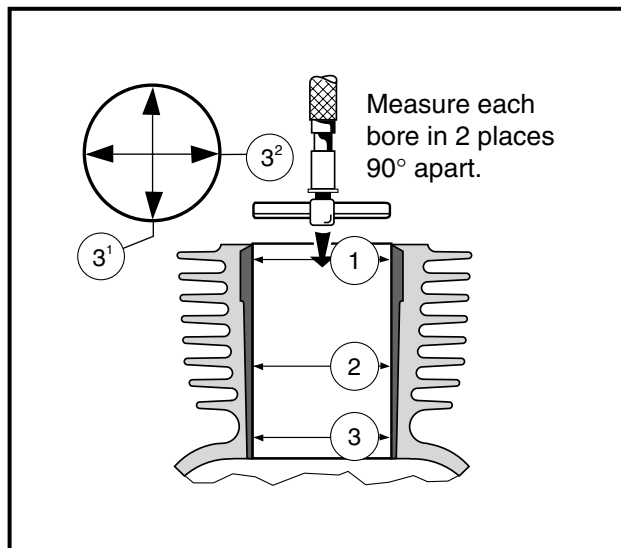

Figure 13-58 Measure Cylinder Bore
2. Make the first measurement parallel with the crankshaft and the second at right angles to the crankshaft at three different locations in the bore. The first measurement location is 0.4 inch (10 mm) from the top of the cylinder. The second location is in the center or 2.4 inches (60 mm) from the top, and the third location is 0.3 inch (8 mm) from the bottom of the cylinder or bottom of ring travel. **See locations 1, 2, and 3 (Figure 13-58, Page 13-30).**